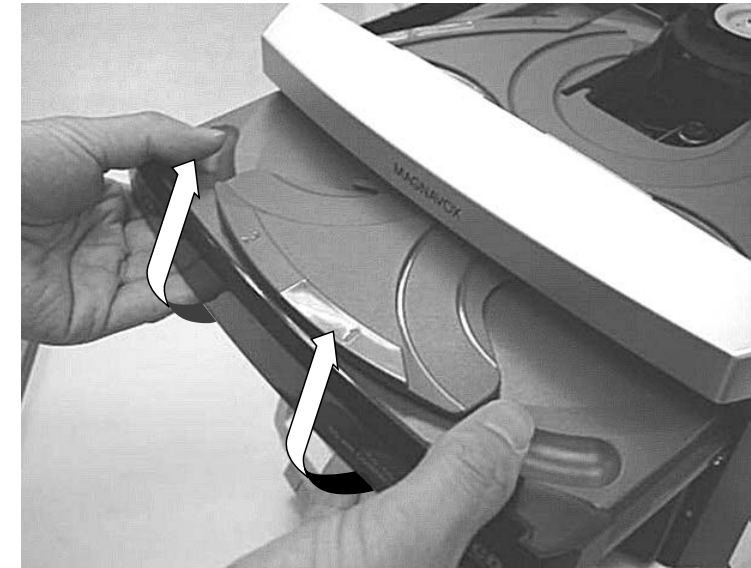

Figure 2
- 4) Remove the Cover Tray (pos 29) as shown in figure 2.